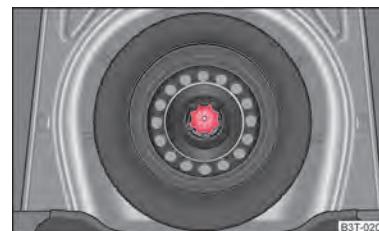

Fig. 185 Luggage compartment: Spare wheel
The spare wheel lies in a well under the floor covering of the luggage compartment and is fixed in place using special screws $\Rightarrow$ fig. 185.
- Stow and attach the replaced wheel in the spare wheel well using a special screw → fig. 185.